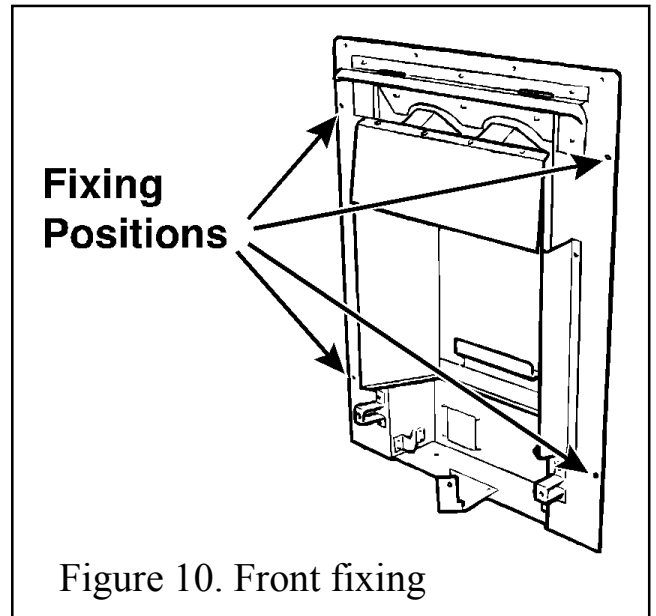

Figure 10. Front fixing
3. Mark the fireplace front surround through the four fixing holes in the side flanges of the convection box. See figure 10.